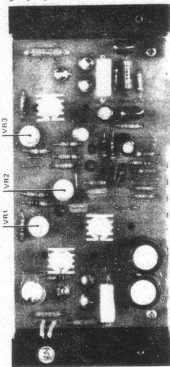

Figure 5. MA Circuit Board
3. Adjust the VR3 as shown in Figure 5 to achieve a waveform which is symmetrical rounded like that shown in Figure 4.